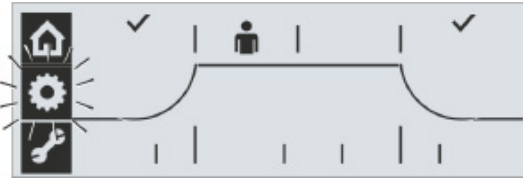

Fig. 13: Correct end position adjustment
17. Confirm saving: Press Drive Controller. Two ticks, refer to fig. 13, confirm correct end position adjustment and the green LED "Ready" is illuminated. The "End position" menu symbol is blinking in the display.